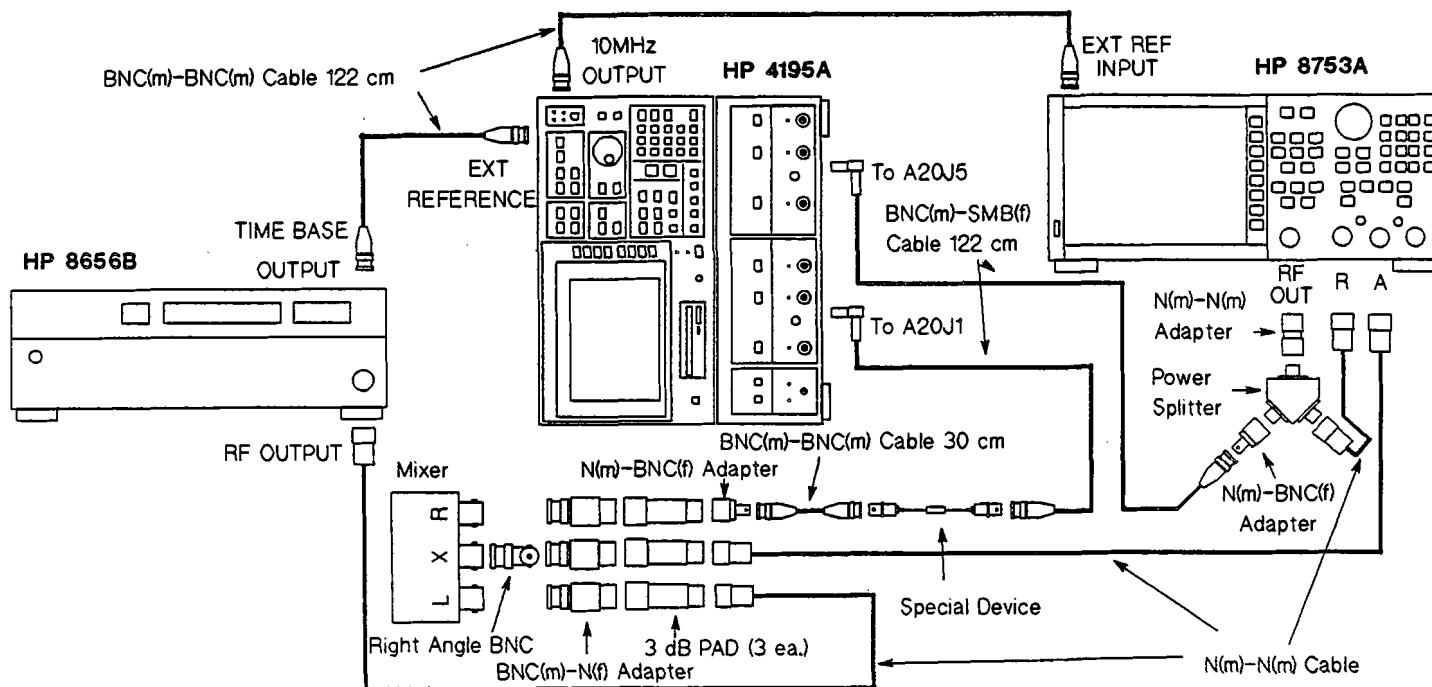
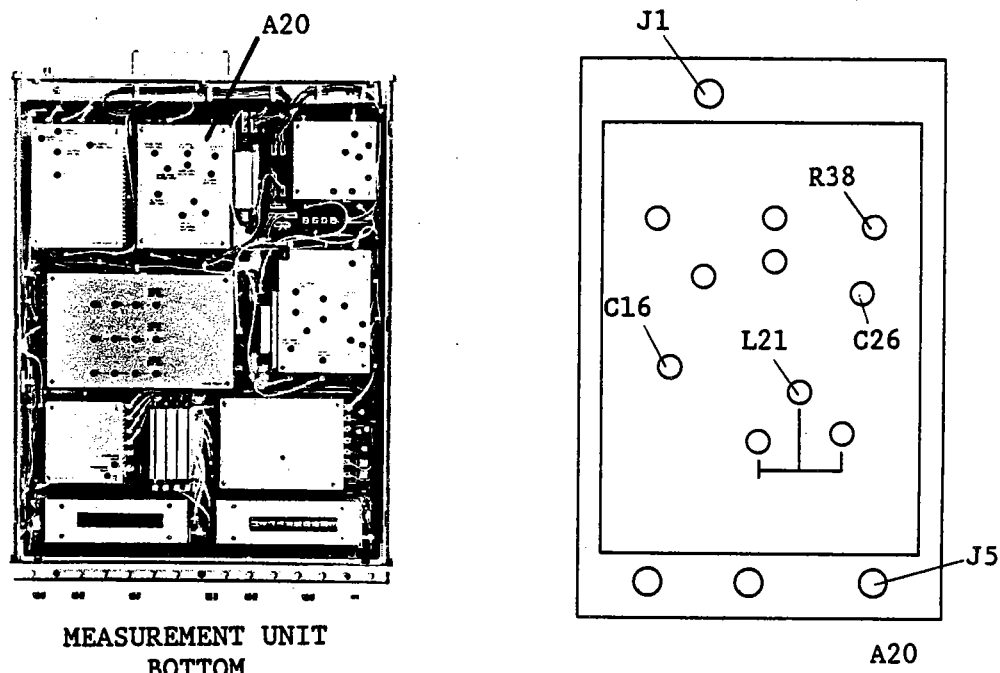

Figure 3-89. Receiver Third IF Converter 6.3/6.9 MHz BPF Adjustment Setup
Figure 3-90. Receiver Third IF Converter 6.3/6.9 MHz BPF Adjustment Locations
1. Connect the equipment as shown in Figure 3-89. See Figure 3-90 for the locations of A20J1 and A20J5.